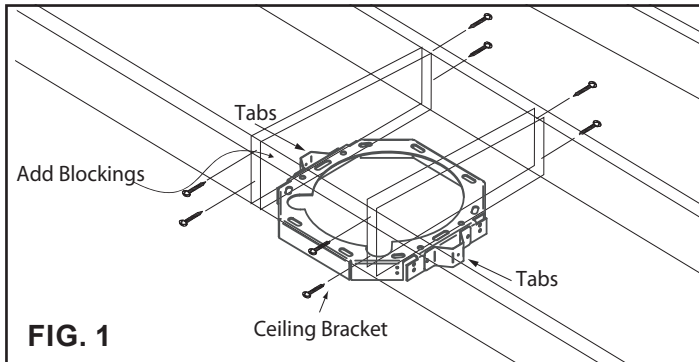

FIG. 1
3. Add and secure wood blockings (minimum 2x4 studs) between ceiling joists for ceiling bracket and telescopic rod couplers if needed. FIG. 1.